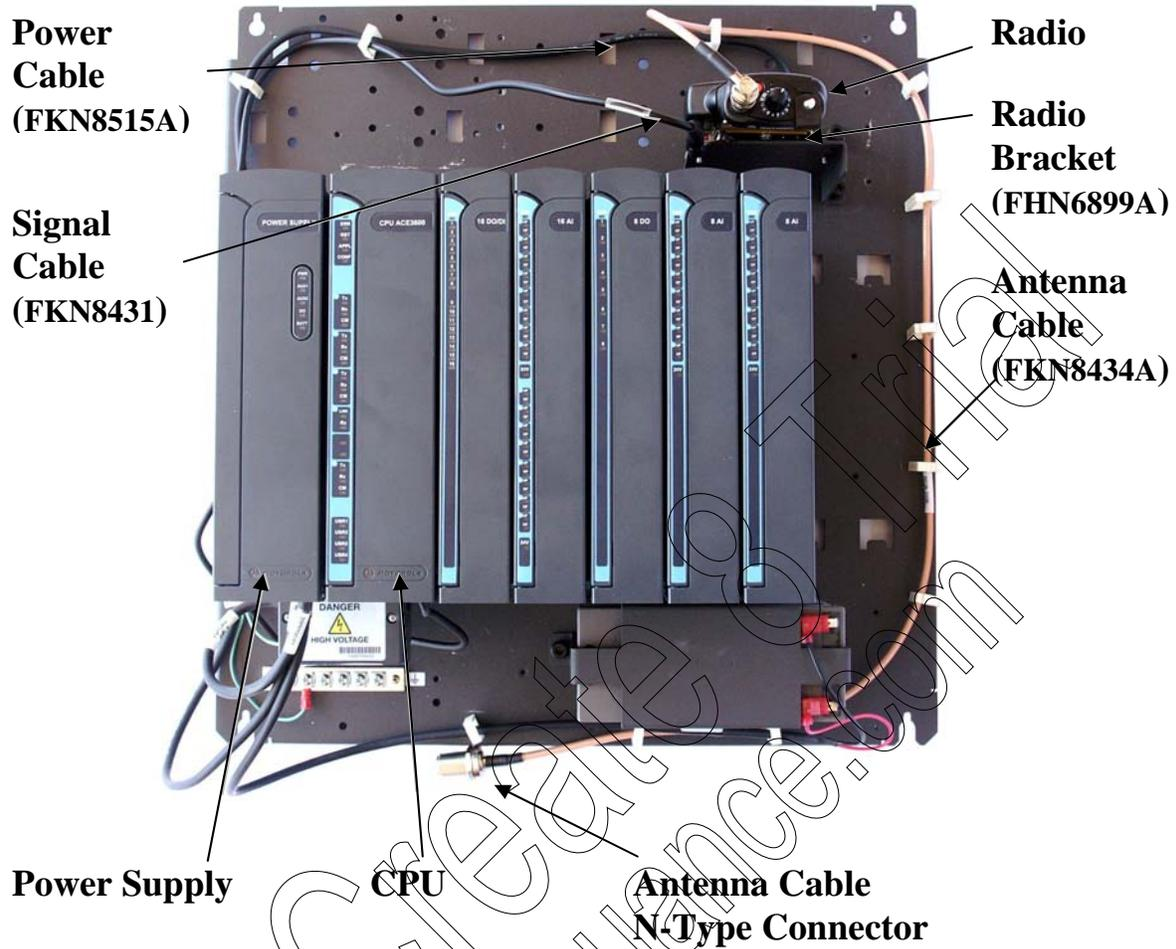

Figure 21-31 GP/HT/PRO Radio Installed on ACE3600 Chassis
8. Using the three screws on the bracket, attach the bracket with the radio to the chassis of the ACE3600. (See Figure 21-31.)
12. Use the clamps provided in the kit to route and secure the audio communication and DC power cables. (See Figure 21-31.)